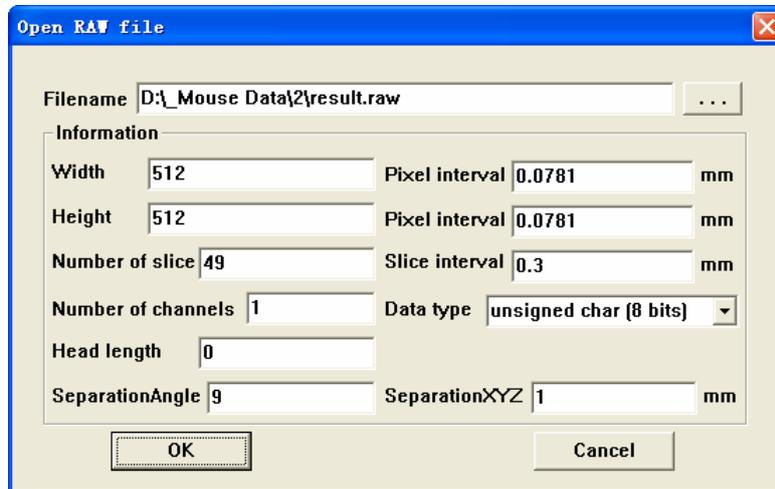

Figure 19-1. Open Raw File Dialog in MOSE
1. In the main window, under the **file** menu, select submenu **Load Volume Data**, click **Load Raw File**. After raw file is selected, the *Open Raw File* Dialog appears (See Figure 19-1). Given all the information listed in the dialog, the MOSE can load the raw data to reconstruct the VBE.